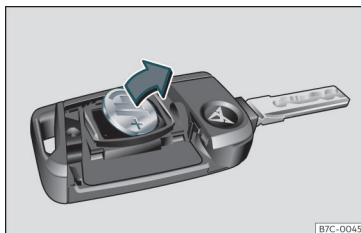

Fig. 68 Vehicle key: removing the battery.
- Extract the battery from the compartment using a suitable thin object »» Fig. 68.
- Place the new battery in the compartment as shown »» Fig. 68, pressing in the opposite direction to that shown by the arrow »» ⓘ.